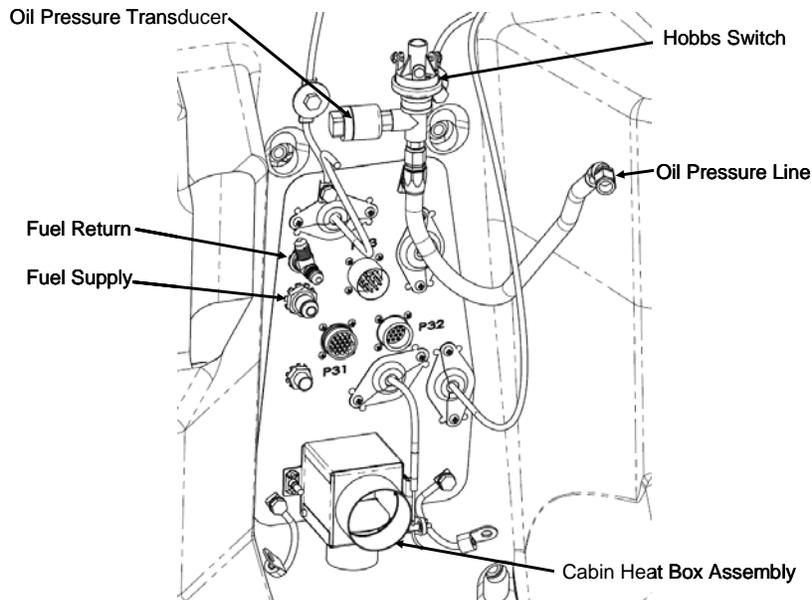

Figure 71-14 Tunnel Firewall Fuel Line Connections
- Connect fuel supply and fuel return lines at firewall location shown in Figure 71-14.
11. Connect J34 to the oil pressure transducer located as shown in Figure 71-14.